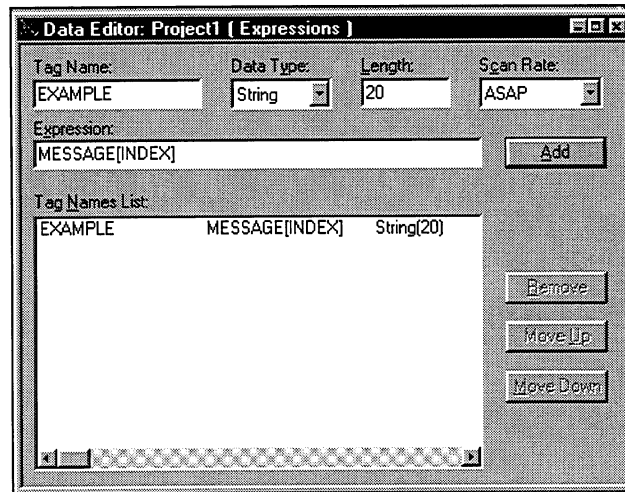

Figure 3-9. Expression Indexing Example
4. Double-click on the Expressions entry in the list box to access the Expressions form, as shown in Figure 3-9.